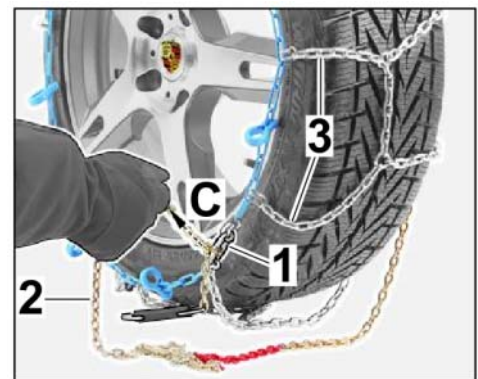

Figure 14
3.2.4 Disengage the chain link at the locking plate and pull the tensioning chain through the locking plate (⇒ *Figure 14-C-*).